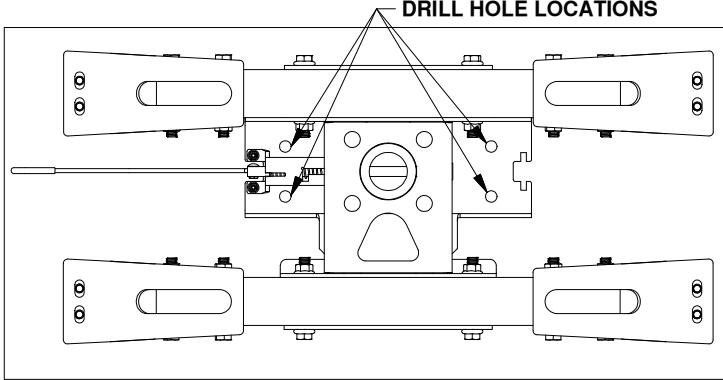

Figure H1: View of center section assembled.
- 1. Drill the holes.** To install the safety chain brackets, it is necessary to drill four 11/16" holes through the truck bed floor. Drill the holes so that they match up with the two sets of holes on each side of the center, see Figure H1. This may be done by drilling the 11/16" holes from the bottom using the center as a guide, or by drilling a smaller pilot hole from the bottom and drilling the 11/16" holes from the top side of the bed.